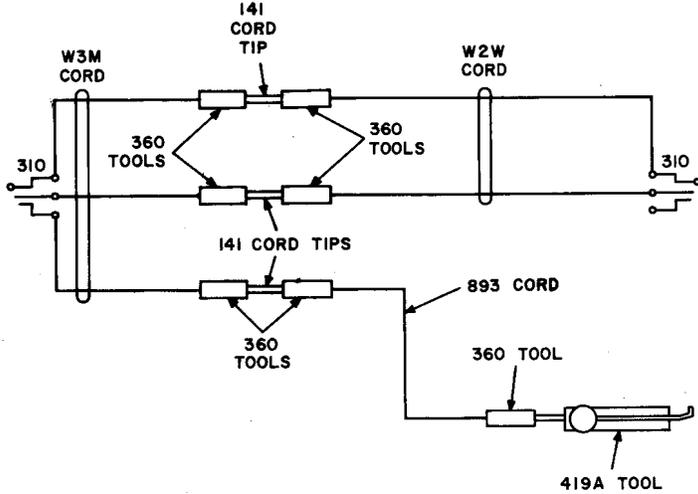

Fig. 1—Test Cord Assembly
2.15 Test cord assembly, Fig. 1 consisting of the following: one W3M cord, 6 feet long, equipped with a 310 plug and three 360 tools (3W4A cord); a W2W cord, 6 feet long, equipped with a 310 plug and two 360 tools (2W17A cord);
Using 6-foot W3M cord, connect plug into test jack. (See Fig. 1.) | |